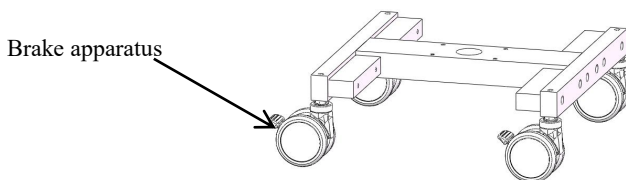

Figure 11.1.1 Castor Assembly and Cross Bar Assembly
- 1) Remove the base from the pallet, place on the ground as shown in Figure 11.1.1, Put the brake on the cardan wheel.